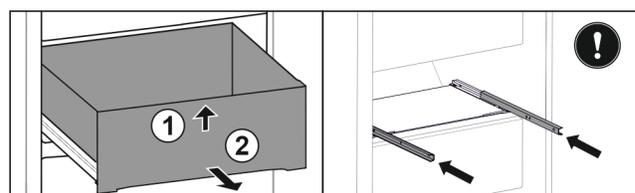

Fig. 120
- ▶ Lift up drawer at the front. *Fig. 120 (1)*
- ▶ Remove drawer to the front. *Fig. 120 (2)*